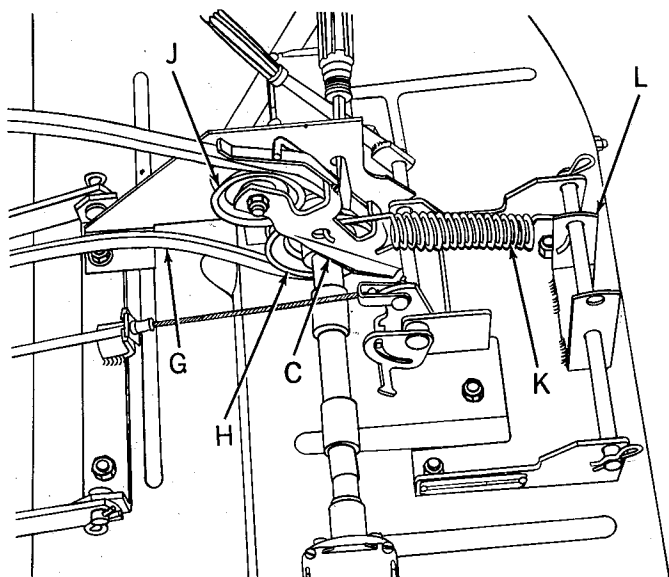

FIG. 11
3. Refer to Fig. 11. Place belt (G) on pulley (H) of cross shaft, and on idler pulley (J) as shown. Assemble largest spring (K) from idler bracket (C) to mounting angle rear (L) as shown. **IMPORTANT:** Long hook of spring (K) must be to idler bracket (C) and hook end away from belt (G) as shown.